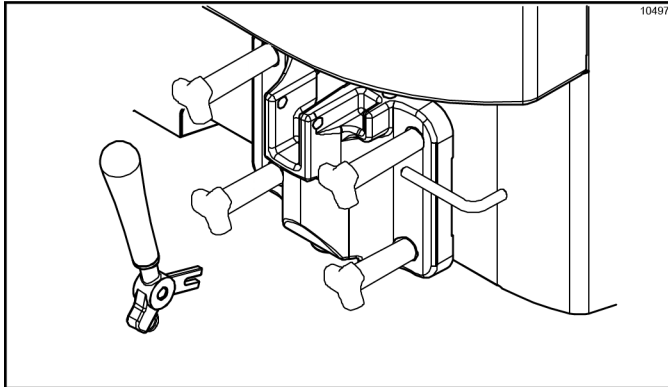

Figure 6-14
- Slide the fork of the draw handle into the slot of the draw valve. Secure with the pivot pin. (See Figure 6-14.)